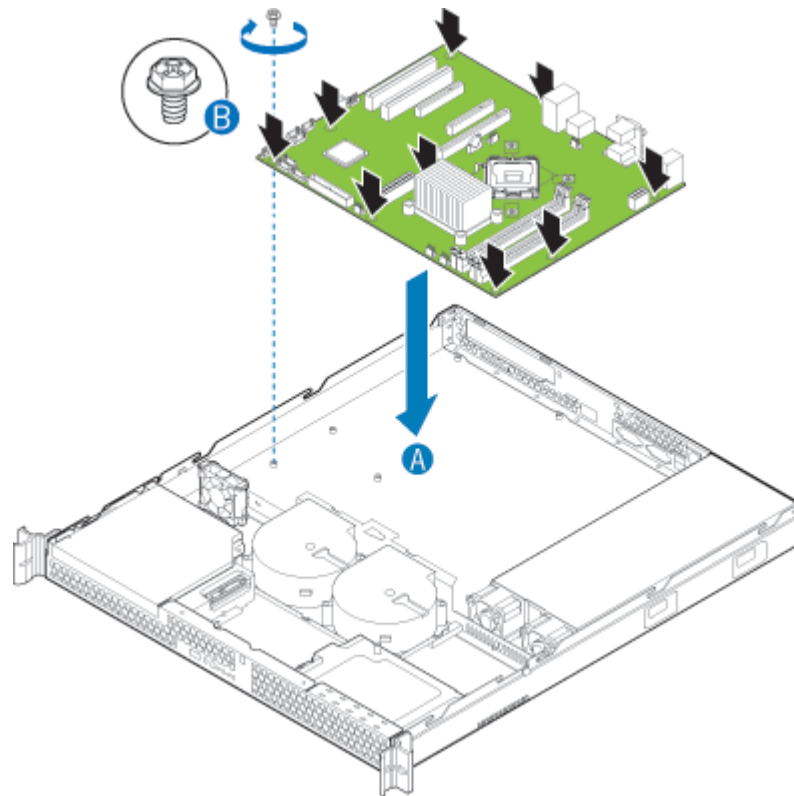

Figure 122: Installing the Server Board
10. Place the server board into the server as shown by letter “A” in Figure 122.